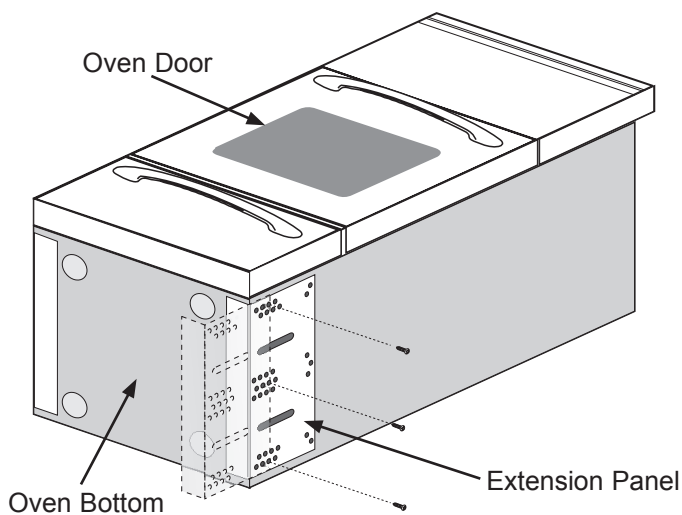

Figure 6
1. Lay oven on its back (see Figure 6).